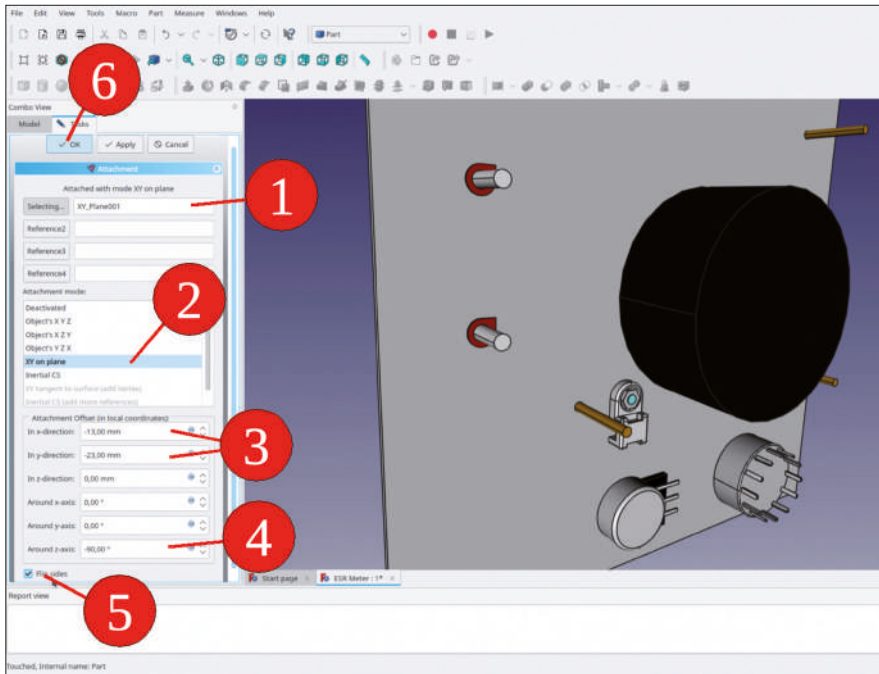

Figure 7-44
4. In the task window, click into the edit field next to 'Reference 1' (the button is shown in dark gray, with the label 'Selecting...'). Click on the 'Model' tab. In the tree view, expand the coordinate system node of the Std-Part-Container 'ESR Meter Complete'. Click on the XY plane and return to the 'Tasks' tab. For the attachment mode, select 'XY on plane'. For the attachment offsets, enter the values from the table above. Finally, check the 'flip sides' checkbox, as the anchor plate is attached from the back (Figure 7-44). Close the task window with the 'OK' button.